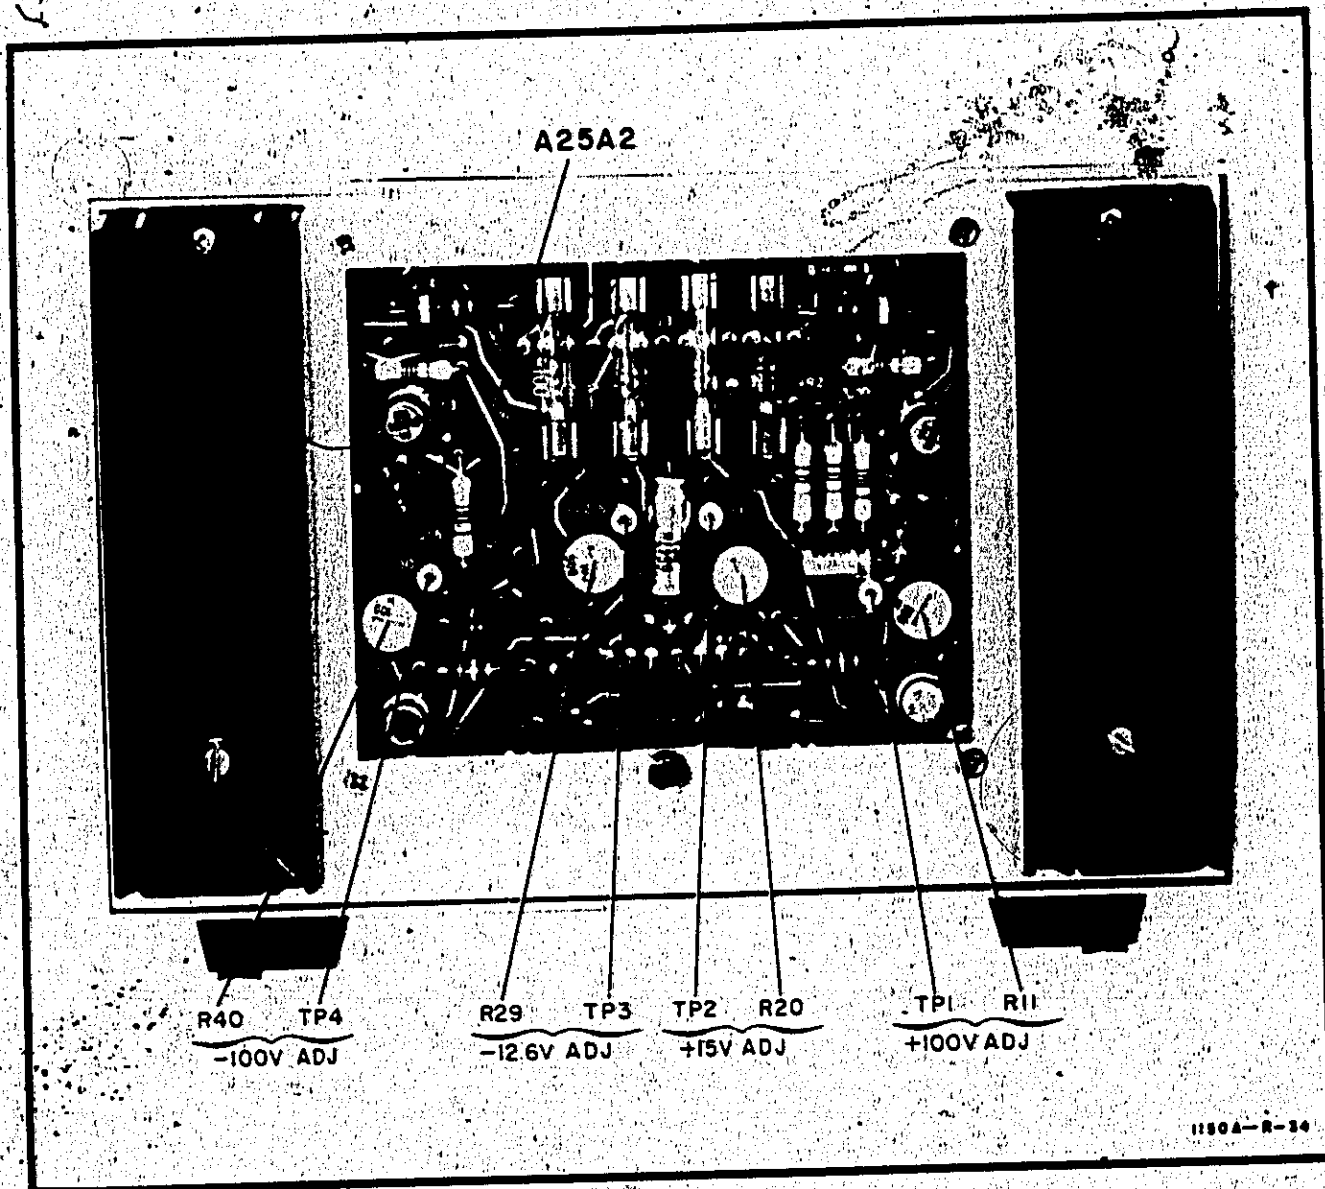

Figure 5-1. Low Voltage Power Supply Adjustments
- a. Connect digital voltmeter to +100V test point TP1 (figure 5-1).